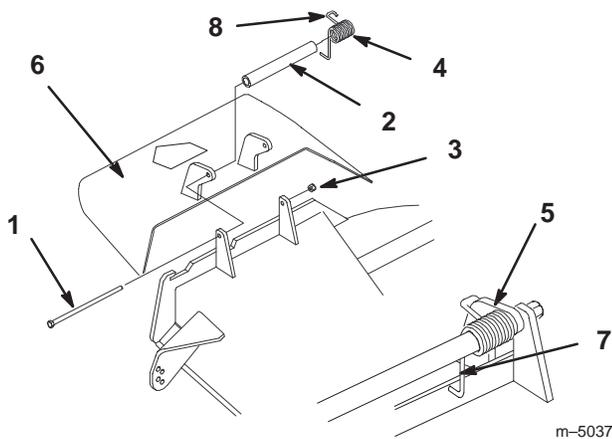

Figure 59
1. Remove the locknut, bolt, spring and spacer holding the deflector to the pivot brackets (Fig. 59). Remove damaged or worn grass deflector.
Note: Make sure the L end of spring is installed behind deck edge before installing the bolt as shown in figure 59.
3. Install bolt and nut. Place J hook end of spring around grass deflector (Fig. 59).